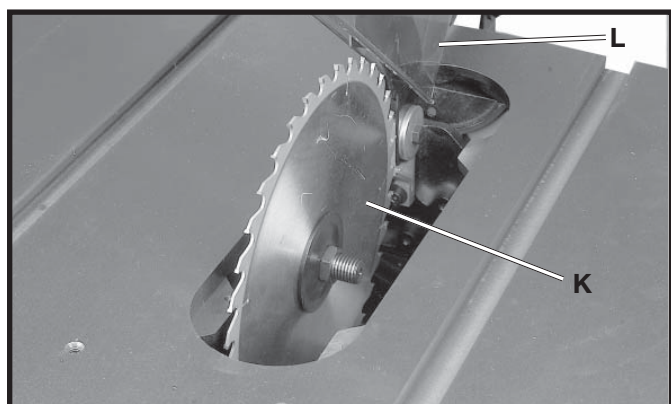

Fig. 50
- With the blade guard (L) Fig. 50, in the raised position, attach the saw blade (K) on the arbor with the two arbor wrenches provided (No. 7 and 8, Fig. 1). For more instructions on changing blades, see "CHANGING THE SAW BLADE" section in this manual.